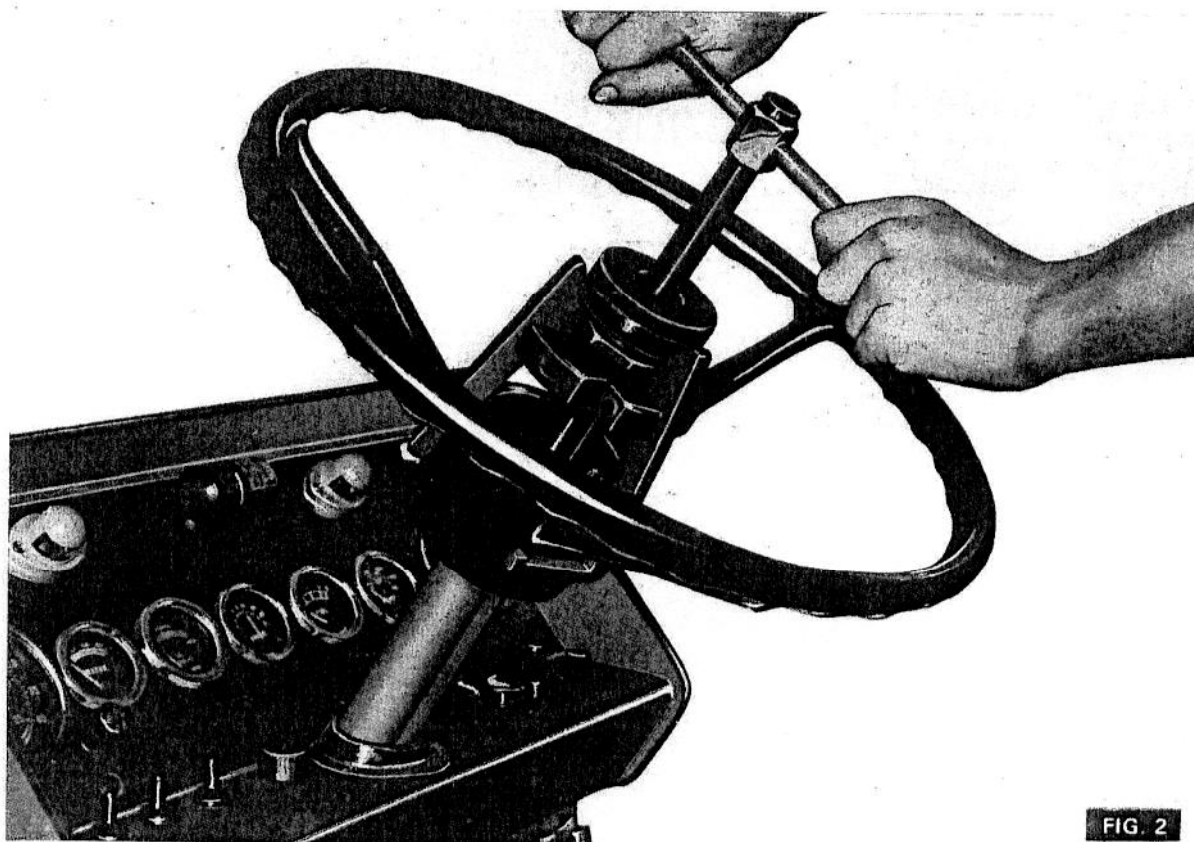

FIG. 2
2. (Fig. 2) Pull the wheel off the splined shaft using tool MF 268. Remove the cap spring and grommet from the steering column.